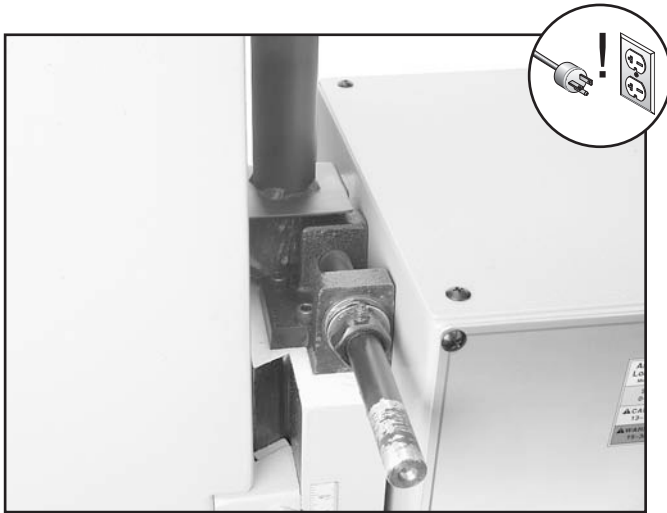

Figure 31. Elevation gears (elevation handwheel removed).
2. Use a 4mm hex wrench to loosen the set screw in the elevation handwheel hub, then remove the handwheel to access the elevation gears, as shown in **Figure 31**.